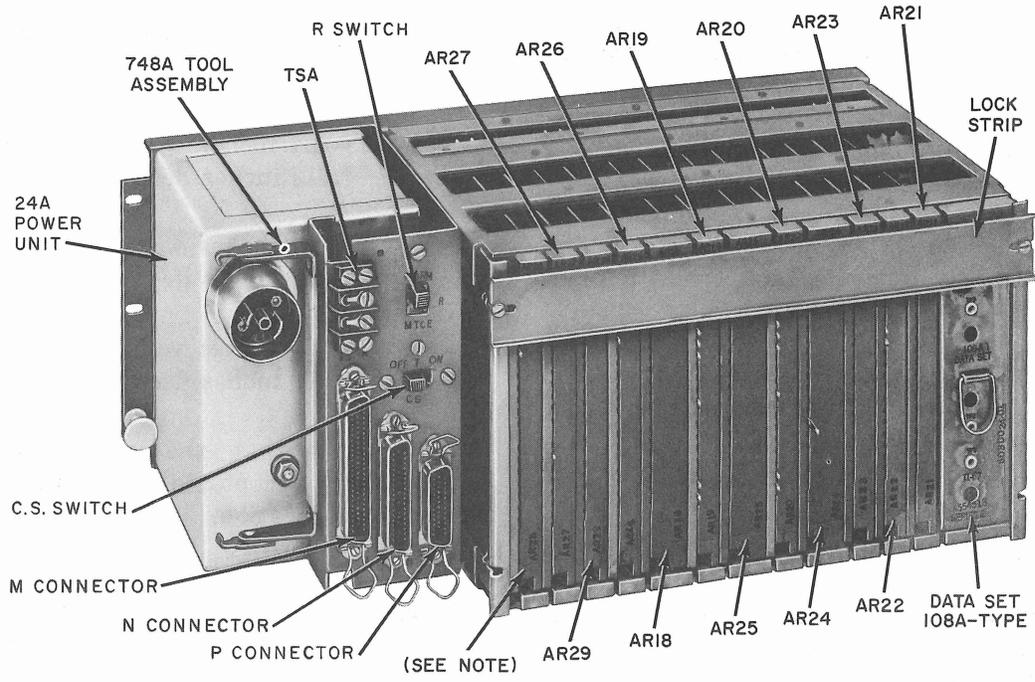

Fig. 1 — Data Auxiliary Sets 820A1 and 820A2, Locations of Circuit Packs and Components
2.04 Verify that the proper circuit packs (CP) are installed in DAS 820A1 or 820A2 (Fig. 1) and that the R and CS switches are positioned properly according to the service order and/or worksheet.
2.06 Using the 748A tool assembly (card-extracting tool), remove CP AR18 and CP AR25 (Fig. 1) as follows: